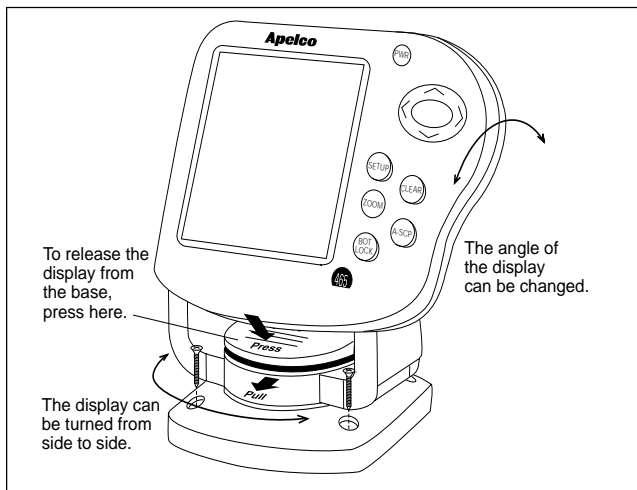

Fig. 2-9
You may mount the display unit on any flat surface using the bracket supplied. See Fig. 2-9. (There is also an optional kit which allows you to flush-mount the display in a flat panel or dashboard). Follow these instructions if you are using the standard mounting bracket:
2. Remove the display unit from the bracket by pressing on the large button in the center of the bracket. See Fig. 2-9.